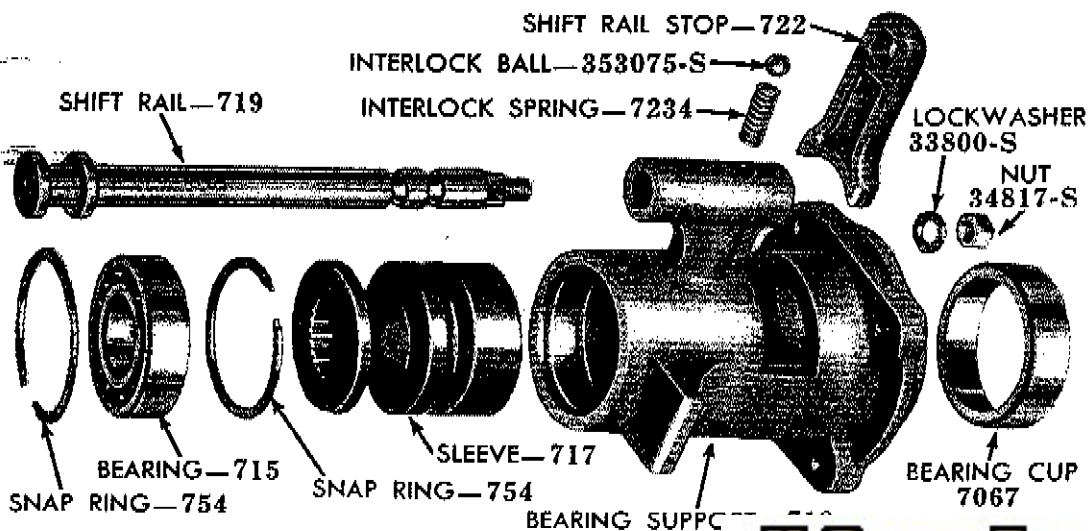

Fig. 14—Power Take-off Shift Assembly
(4) **POWER TAKE-OFF SHIFTER ASSEMBLY.** Remove the snap ring from the rear of the bearing support (fig. 14). Lift the bearing and clutch sleeve from the bearing support. Remove the nut and lock washer from the shift rail, and remove the shift rail toward the rear, being careful not to lose the interlock ball and spring. Lift out the shift fork.
d. Power Take-off Shifter Assembly. Install the snap ring (fig. 14) in the bearing support. Install the clutch sleeve in the bearing support with the large end of the sleeve facing toward the bearing cup end of the bearing support. Install the bearing and snap ring in the bearing support. Install the interlock spring and ball. Depress the interlock ball, then push the shift rail into the bearing support until the threads on the rail are flush with the bearing support. Hold the shift rail stop in position in the bearing support and push the shift rail into the shift rail stop. Install the nut and lock washer on the shift rail.